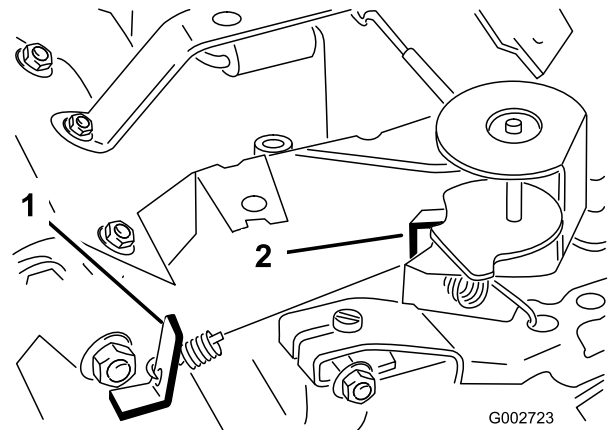

Figure 38
3. Bend the governed idle spring anchor tang (Figure 38) to attain an idle speed of 1725 ± 50 RPM. Check the speed with a tachometer.
5. Move the throttle control to the Fast position. Bend the high speed spring anchor tang (Figure 38) to attain a high speed of 3400 ± 50 RPM.